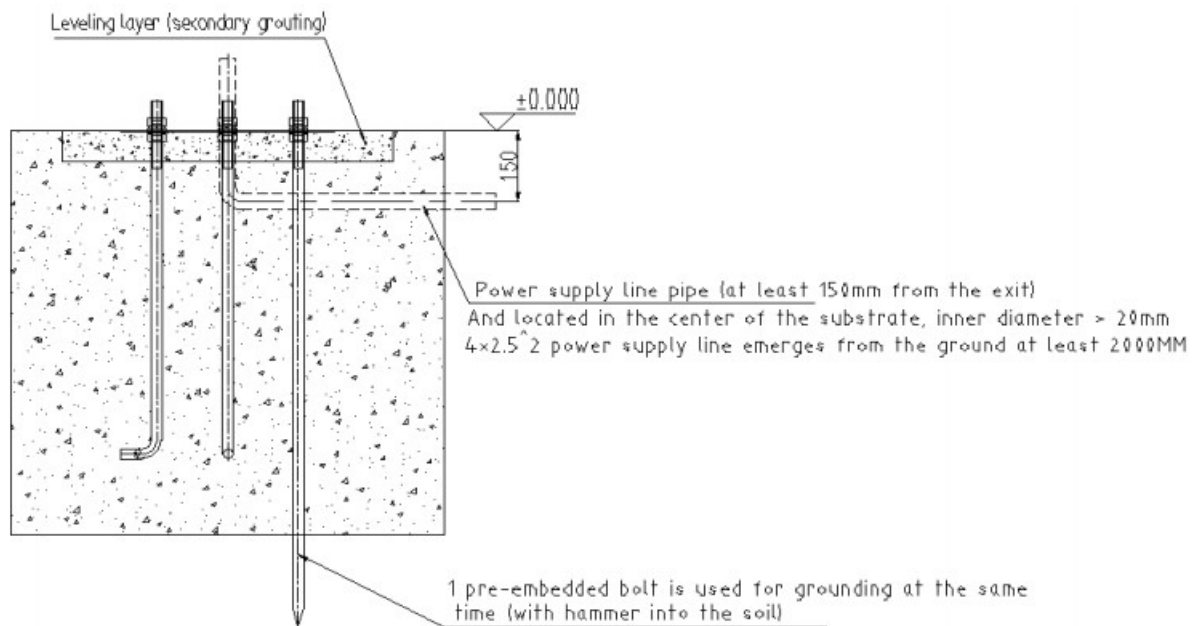

Figure 5-1 (embedded foundation)
1. embed anchor bolts according to the drawings (Figure 5-1)